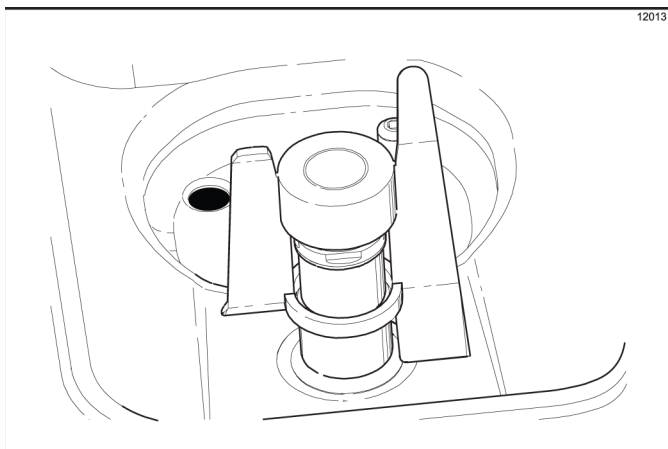

Figure 6-38
14. Place the agitator on the agitator driveshaft housing. (See Figure 6-38.)